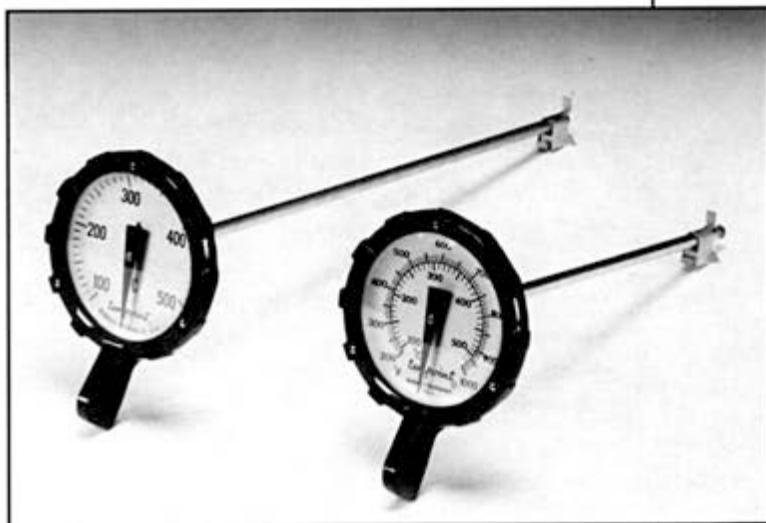
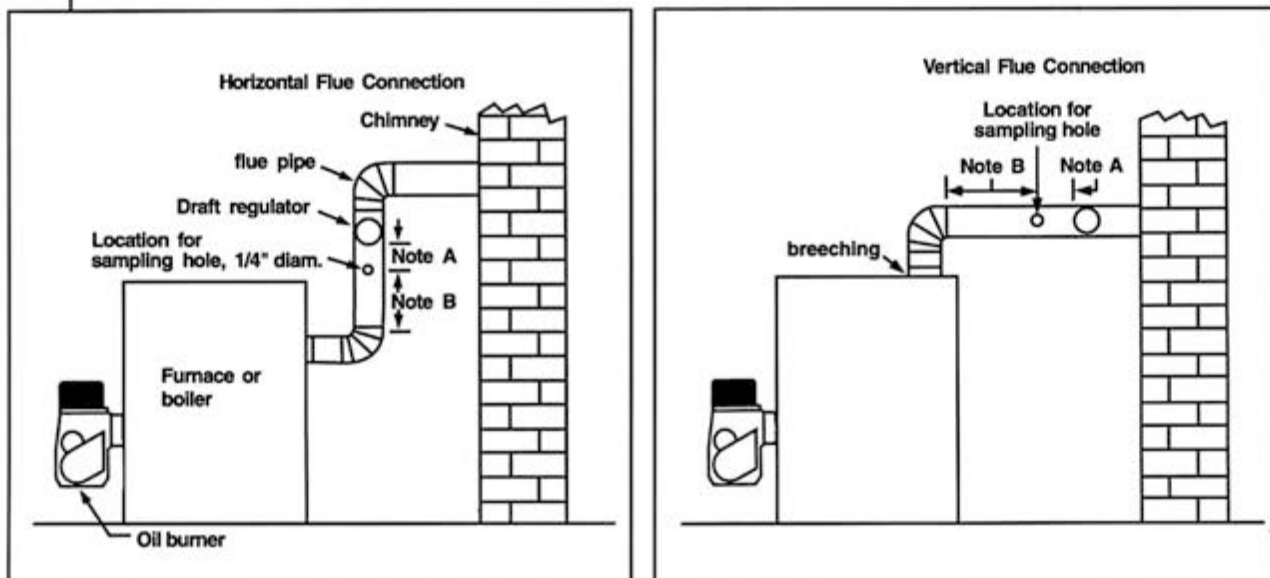

FIGURE 54 Flue gas thermometers
FIGURE 60 Desirable location for 1/4" flue pipe sampling hole for typical chimney connections
Flue gas temperature (often called stack temperature) is normally determined with a bi-metallic dial thermometer with a range of 200°F to 1000°F. (See Figure 54.) The bi-metallic element is a single helix, low mass coil fitted closely to the inside of a stainless steel stem. The stainless stem is 3/16 inches OD and can be easily inserted into a 1/4 inch hole in a flue pipe. The sampling hole should be at least two flue diameters above the breeching or elbow, at the breeching but ahead of the barometric damper. (See Figure 60.) Stem mounting sleeves are also available, which make it possible to hold the thermometer in pipe ducts with the stem inserted at the proper length.
- B. **Prepare Heating Unit for Testing.** Drill a 1/4 inch hole in the flue between the appliance and the barometric draft regulator, if not already there, as shown in Figure 60. If space permits, the holes should be located in a straight section of the flue, at least two flue